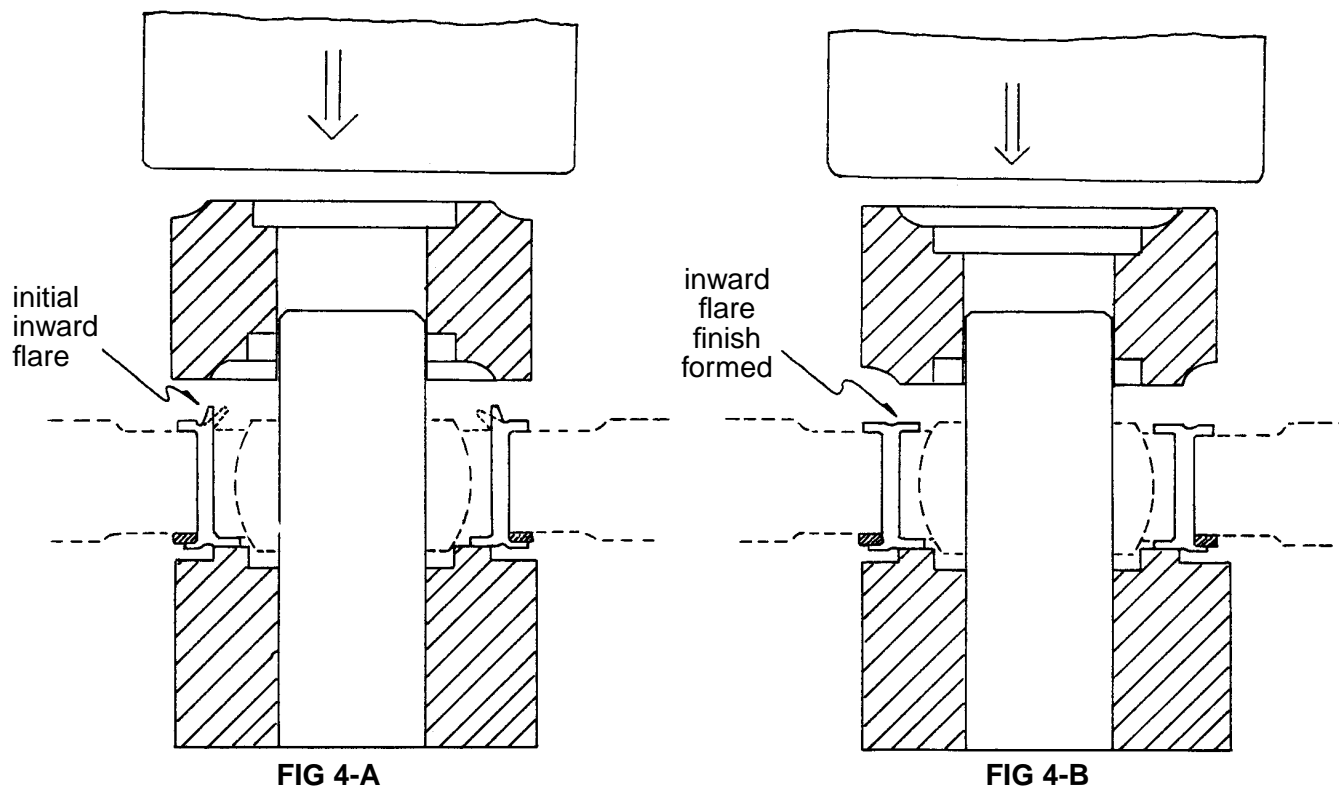

Figure 4 - CSP 314 Bushing Inward Flare
- Step 9. Set the flaring tool in place to form the inward flared flange and apply pressure to form the initial inward flare on the bushing as shown in Figure 4-A.
Step 10. Reverse the flaring tool and apply pressure to finish form the inward flared flange as shown in Figure 4-B.